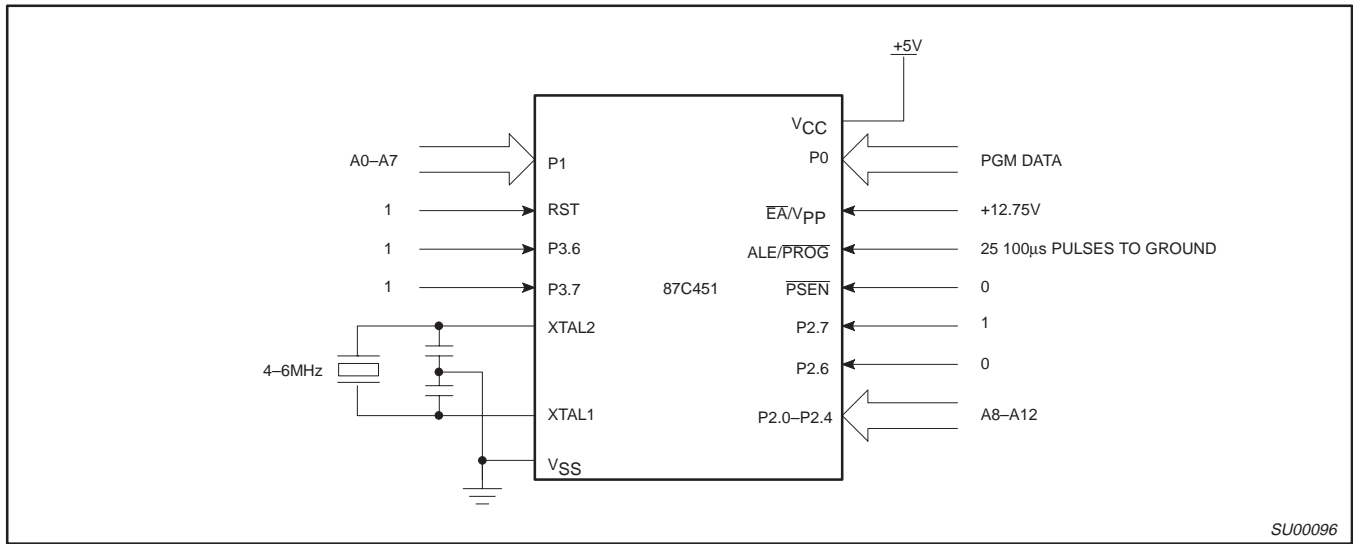
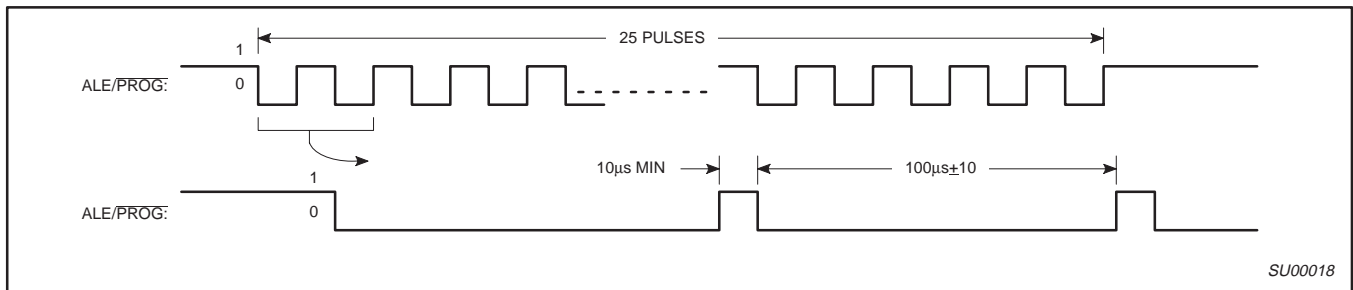
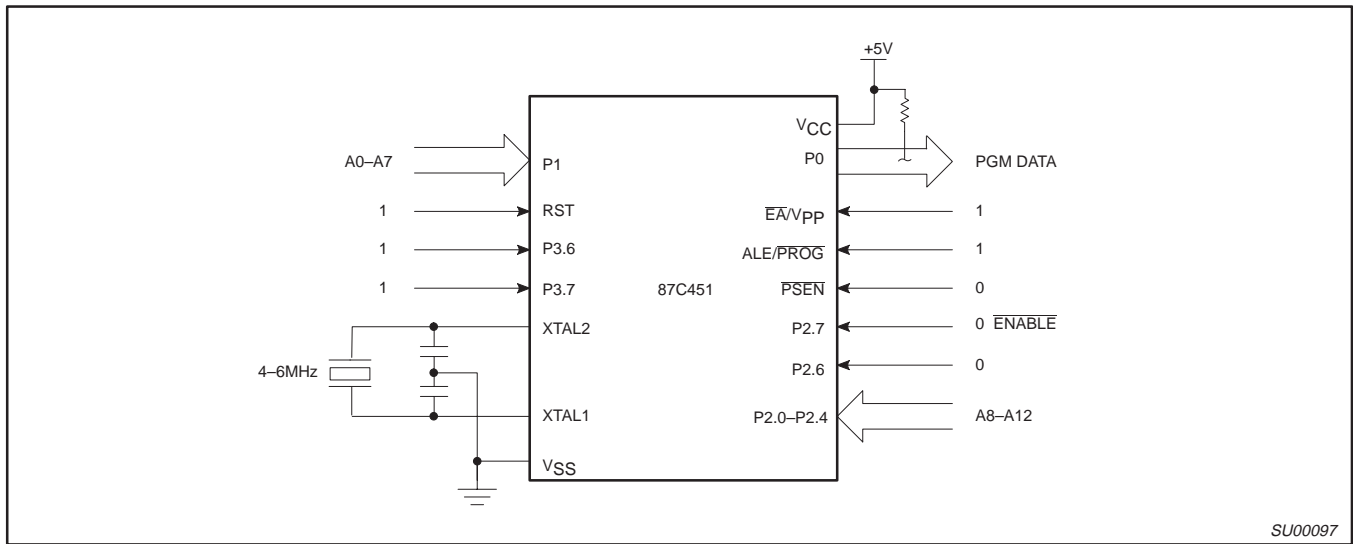

Figure 18. Programming Configuration
Figure 19. PROG Waveform
Figure 20. Program Verification
Table 4 shows the logic levels for reading the signature byte, and for programming the program memory, the encryption table, and the lock bits. The circuit configuration and waveforms for quick-pulse programming are shown in Figures 18 and 19. Figure 20 shows the circuit configuration for normal program memory verification.
The setup for microcontroller quick-pulse programming is shown in Figure 18. Note that the 87C451 is running with a 4 to 6MHz oscillator. The reason the oscillator needs to be running is that the device is executing internal address and program data transfers.
The address of the EPROM location to be programmed is applied to ports 1 and 2, as shown in Figure 18. The code byte to be programmed into that location is applied to port 0. RST, \overline{PSEN} and pins of ports 2 and 3 specified in Table 4 are held at the 'Program Code Data' levels indicated in Table 4. The ALE/PROG is pulsed low 25 times as shown in Figure 19.
If lock bit 2 has not been programmed, the on-chip program memory can be read out for program verification. The address of the program memory locations to be read is applied to ports 1 and 2 as shown in Figure 20. The other pins are held at the 'Verify Code Data' levels indicated in Table 4. The contents of the address location will be emitted on port 0. External pull-ups are required on port 0 for this operation.
* FOR PROGRAMMING VERIFICATION SEE FIGURE 18.
FOR VERIFICATION CONDITIONS SEE FIGURE 20.